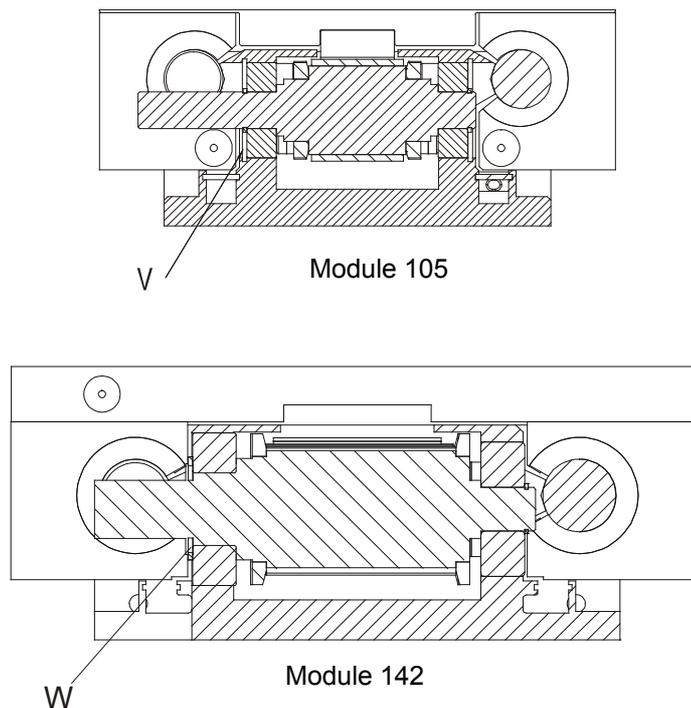

Figure 39: Slave drive set module 105 and module 142
- Remove retention ring (V, module 105) or pressure plate (W, module 142), (see *Figure 39, page 40*)